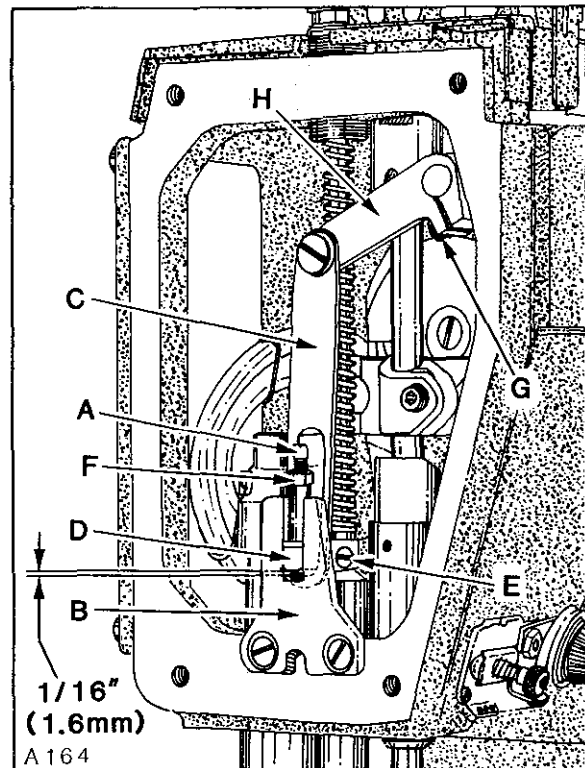

Fig. 34
With needle bar at bottom of stroke and presser foot resting squarely on throat plate, there should be a minimum clearance of 1/64 inch (0.4mm) between the bottom of screw (A, Fig. 34) and bottom of slot in presser bar guide plate (B). At this time, there should be at LEAST 1/32 inch (0.8mm) clearance between bottom of presser bar guide and top of lower presser bar bushing. There should also be 1/16 inch (1.6mm) clearance between bottom of slot in lifter lever link (C) and bottom of presser bar guide (D) when foot lifter lever is released. If adjustment is required, proceed as follows: